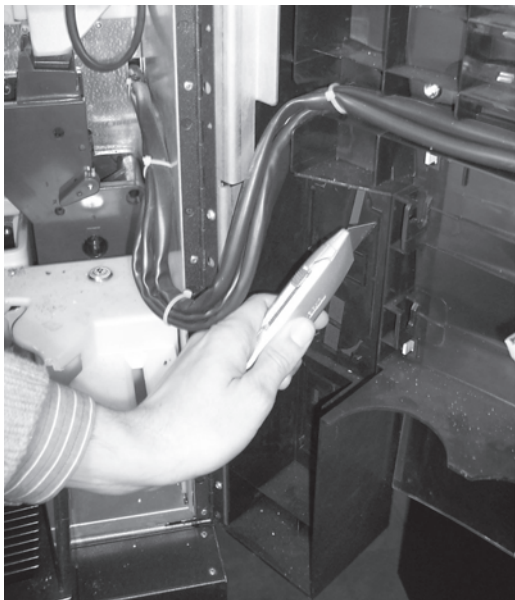

fig.36
- from the internal side of the door, cut the external film following the punched shape which corresponds to the desired cashless payment or coin validation system (fig. 36)